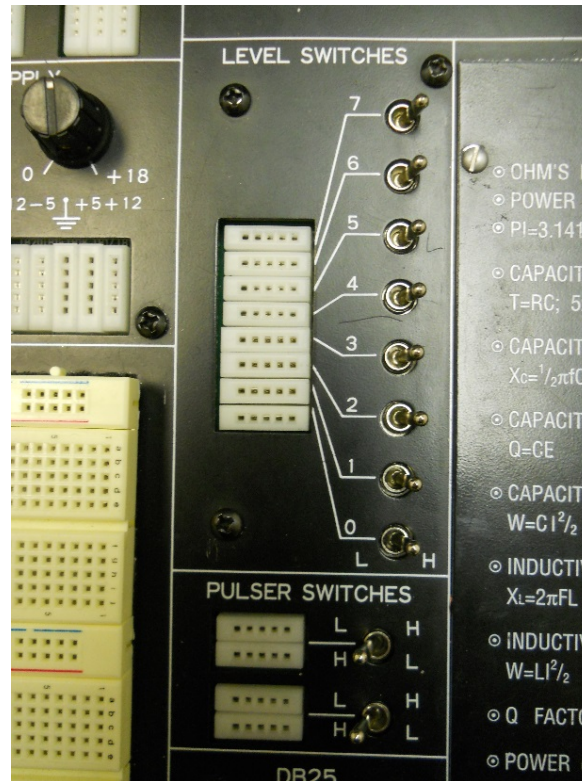

Figure 3 – Logic Switches and Pulser Switches
Figure 3 shows the 8 logic switches provided in the logic trainer.
5.1. The two pulser switches (lower part of figure 3) are intended to provide momentary logic level changes when the switch is pressed. The switches have a spring-return device, so they will not remain in right-most position when released. Some logic circuits require a “positive-going” transition (PGT) which means when activated, the switch output goes from a logic ‘0’ to a logic ‘1’ level and returns to the ‘0’ level when released. Draw a single 5V pulse signal and label the PGT.